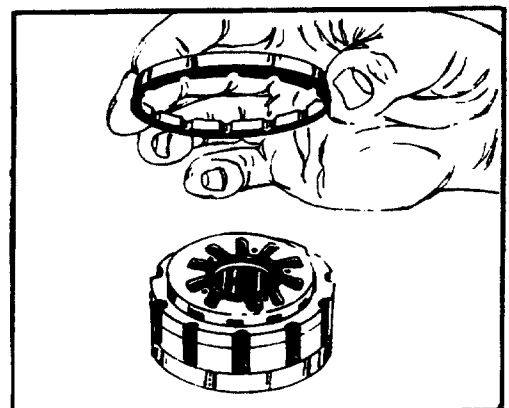

FIGURE 25.
- remove commutator ring** 30. Remove commutator ring (21). See figure 25. Inspect for cracks, burrs and scoring.